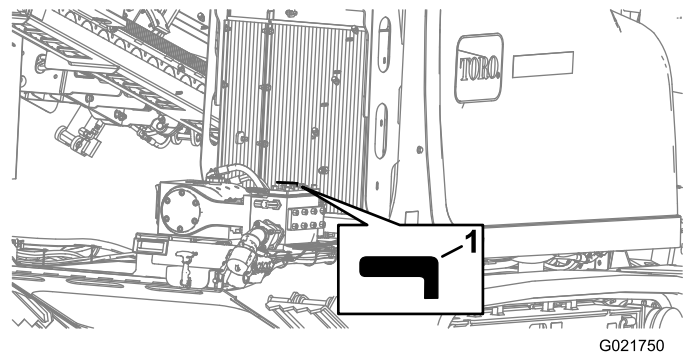

Figure 154
4. Turn the drilling-fluid valve clockwise to the Off position (Figure 154).